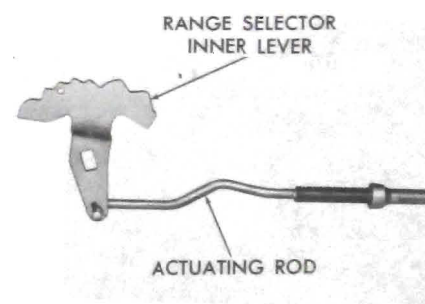

Figure 75-281
6. Install range selector inner lever to parking pawl actuating rod. See Figure 75-281.